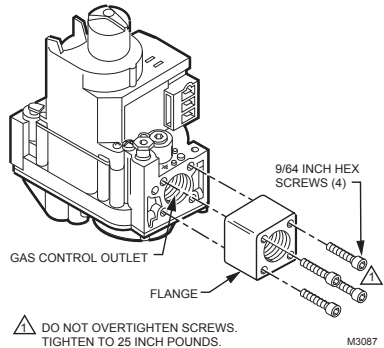

Fig. 1. Install flange to gas control.
4. With the O-ring facing the gas control, align the screw holes on the gas control with the holes in the flange. Insert and tighten the screws provided with the flange. See Fig. 1. Tighten the screws to 25 in. pounds of torque to provide a gas-tight seal.